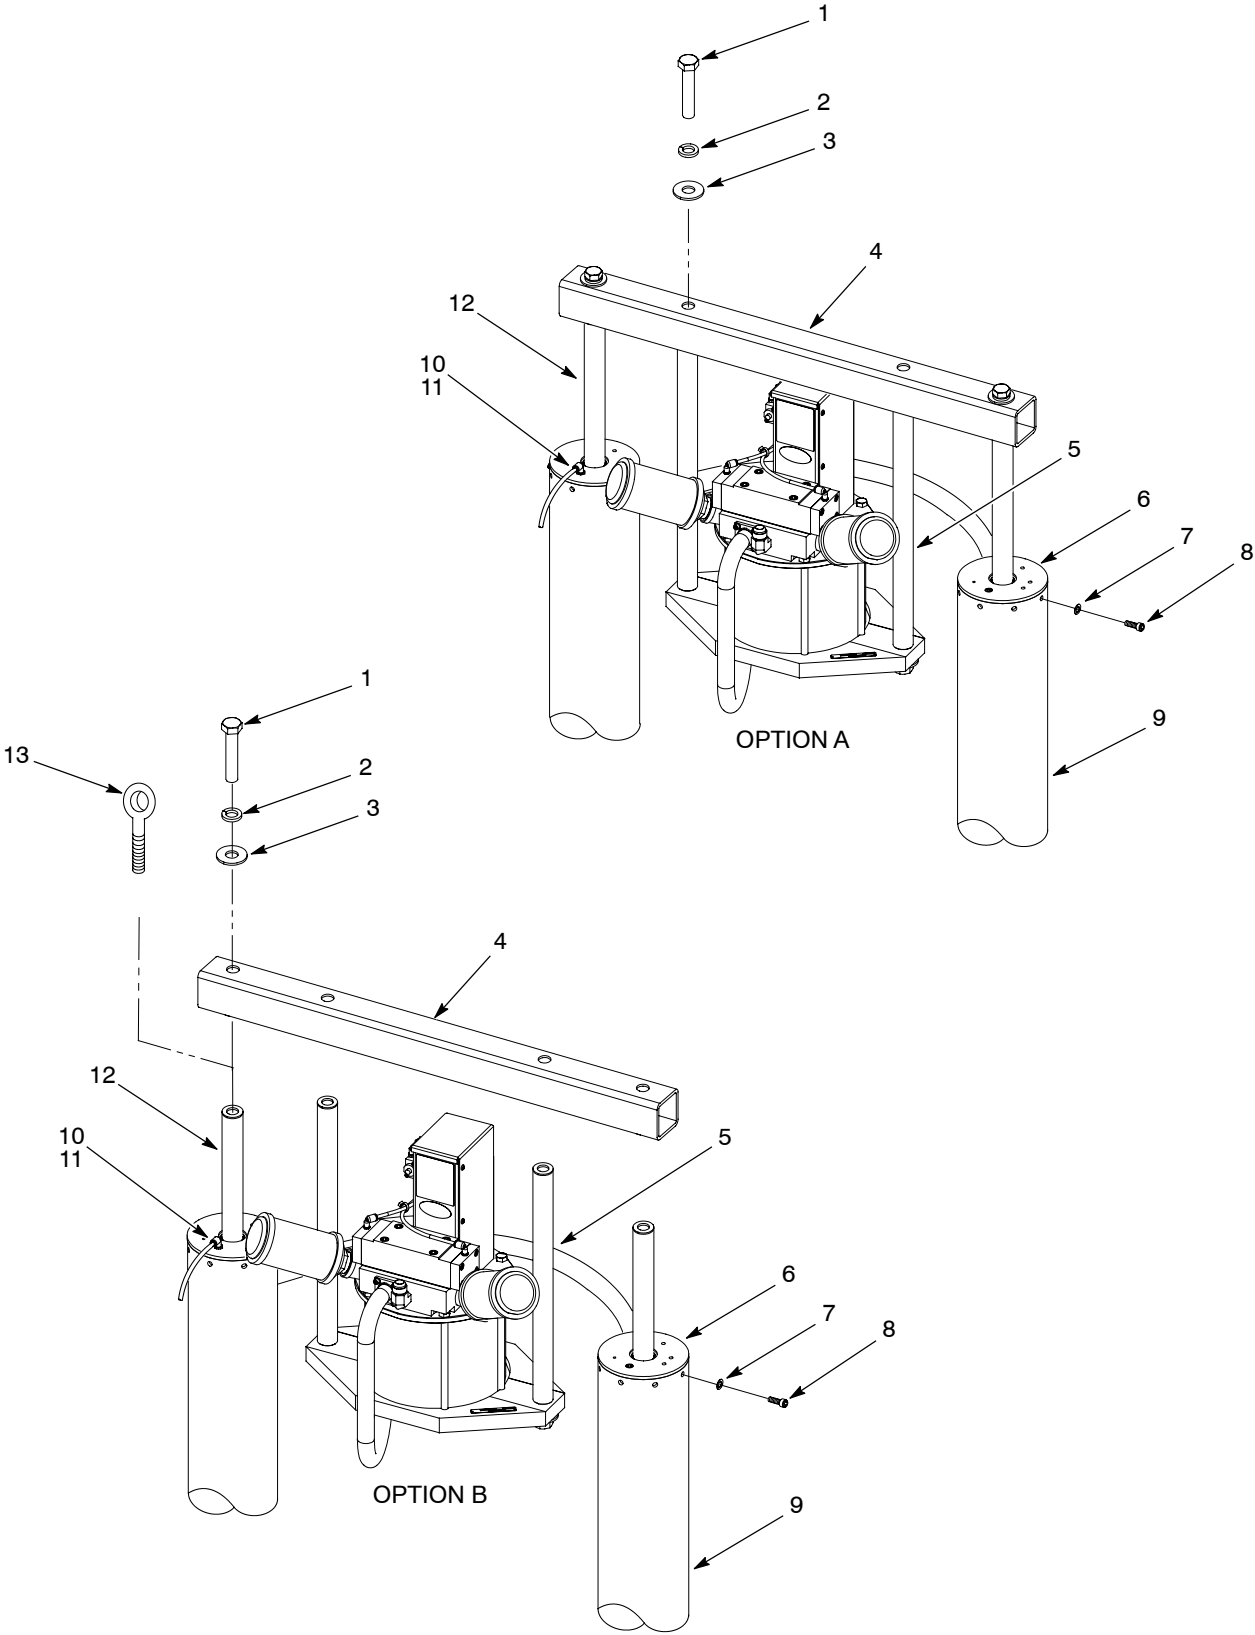

Figure 2 Removing the Cylinder Shafts
1. See Figure 2, Option A. Remove the screws (1), lock washers (2), and flat washers (3) securing the crossover (4) to the mounting rods (5).
2. Disconnect the tubing (10) from the fitting (11).
3. Remove the cap screws (8) and washers (7) from the air cylinders (9). Note the orientation of the cylinder heads (6).
4. Attach the lifting device to the middle section of the crossover (4) and remove both cylinder shafts (12) from the air cylinders (9).
1. See Figure 2, Option B. Remove the screws (1), lock washers (2), and flat washers (3) securing the crossover (4) to the mounting rods (12) and cylinder shafts (5).
4. Thread the $\frac{7}{8}$ -14 eye bolts (13) into each cylinder shaft (12). Attach the lifting device to an eye bolt. Use the lifting device to remove the cylinder shaft from the air cylinder (9). Remove the remaining cylinder shaft in the same manner.
- flat washers (14)
- lock washers (15)
- shaft screw (16)
5. Tighten each screw (16) to 250 ft-lb (339 N•m).
6. Lubricate the piston seal (11) with O-ring lubricant.
7. Carefully guide the cylinder shaft (7) into the air cylinder (19) until it bottoms out. Install the remaining cylinder shaft in the same manner.
8. Orient the cylinder heads (4) as noted during removal.
9. Install each cylinder head (4) into an air cylinder (19). Install the washers (17) and cap screws (18) into each cylinder. Tighten each screw (16) to 10–15 ft-lb (14–20 N•m).
10. Connect the air tube (20) to the fitting (21).
11. Install any device or bracket that was removed from the top of the cylinder head (4).
12. See Figure 2, Option B. Apply Loctite 242 to the threads of the screws (1). Install the crossover (4) to the cylinder shafts (12) and mounting rods (5) using the screws, lock washers (2), and flat washers (3). Tighten the screws to 250 ft-lb (339 N•m).